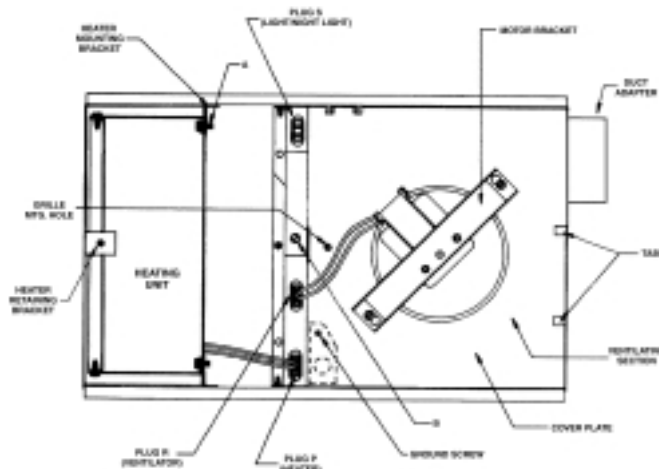

FIGURE 1 (ALL MODELS)
- Before removing main unit from carton, loosen the two heater retaining screws "A" (Fig. 1). Pull plug "P" from its receptacle. Squeeze the heater frame to release the heater retaining bracket and carefully lift out the heating unit until the screws disengage the keyholes. Place in a safe location.
- Remove lens from grille assembly by squeezing both sides. Lift grille assembly to unit and push plug into light receptacle "S". Engage the long mounting screw into formed hole in cover plate. See fig. 1. Tighten until grille is snug against ceiling.